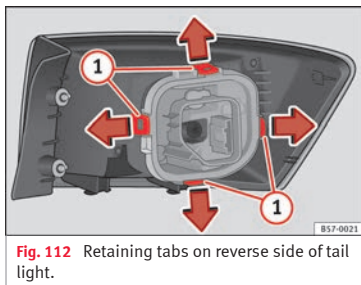

Fig. 112 Retaining tabs on reverse side of tail light.
7. Disassemble the bulb holder unlocking the securing tabs » **Fig. 112 ①**.